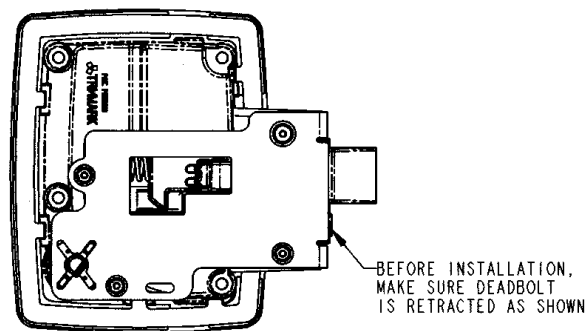
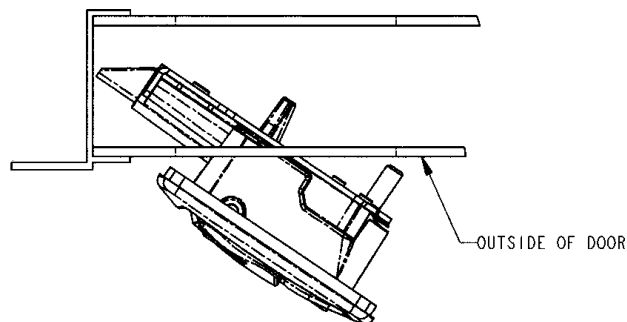

Fig. 6
Fig. 7
2. Make sure the deadbolt is retracted (Fig. 6). Insert the plunger end of the outside paddle assembly into the cutout in the door in a "shoehorn" fashion (Fig. 7).